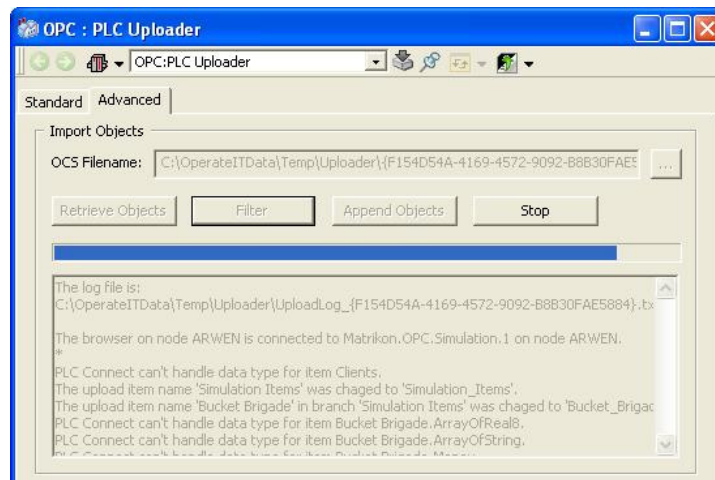

Figure 128. PLC Uploader
6. Click **Save** and close the window when editing is complete. Refer to Figure 128.